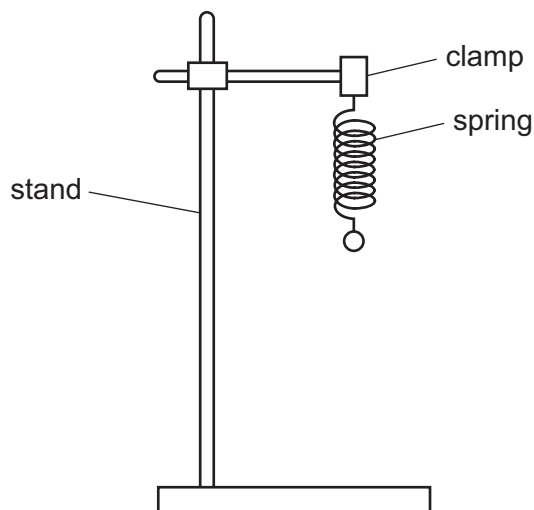

Fig. 3.1
1. The apparatus is to be set up for candidates as shown in Fig. 3.1. The spring is to be sufficiently high above the bench so that when the 500 g mass is hung on the spring, the bottom of the mass is approximately 10 cm above the surface of the bench.